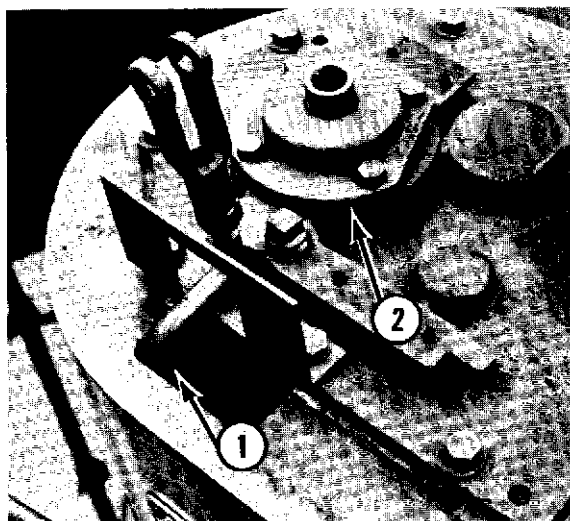

Fig. 11-3
- I. Disconnect the clutch rod (1, Fig. 11-3) from the hub.
- K. Remove the upper bearing retainer (2, Fig. 11-3).